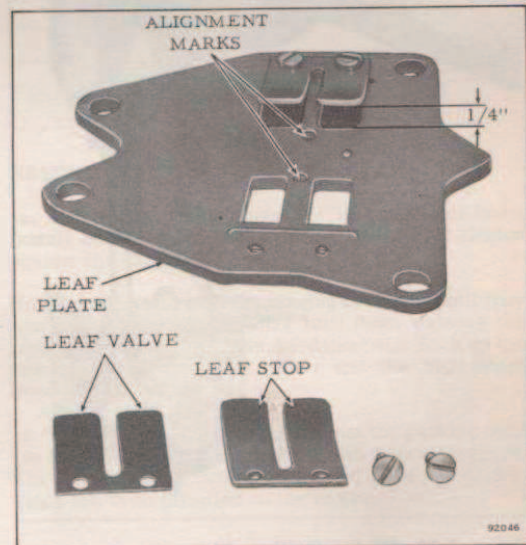

Figure 3-9. Leaf Plate Assembly
varnish and gum, and the leaves must be perfectly flat and without distortion so that they form a perfect seal with the leaf plate base. See Figure 3-9.
d. Clearance under leaf stop should be 1/4"; adjust if necessary by bending leaf stop. See Figure 3-9.
- b. The leaf is so designed that it maintains constant contact with the leaf plate until a predetermined pressure is exerted against it. Leaf travel away from the plate is limited to 1/4" by the leaf back-up plate. When pressure is removed, the inherent spring action of the leaf segments returns and holds them against the plate. Attach the leaf segments and leaf stops to the leaf plate, aligning leaves with marks on plate. See Figure 3-9.